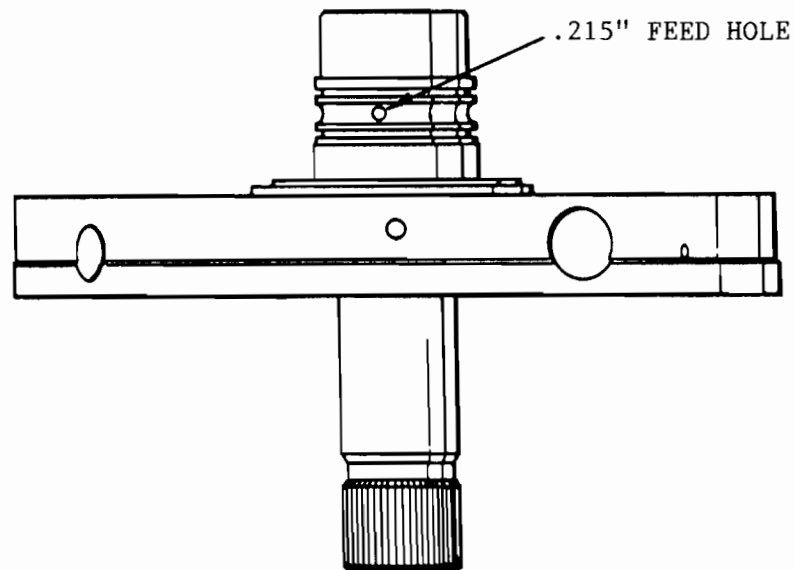

Figure 9
Basically the orifice for the reverse input clutch was moved from the stator shaft (.095" Feed Hole), to the new reverse input housing (See Figures 9 & 10). This now provides two different stators, both made for the forward clutch oil pipe, that WILL NOT interchange.
- (1) EARLY STATOR (.095" Feed Hole) - CANNOT be used with the new reverse input housing, which is the one with the aluminum piston. You will have installed "Two" orifices for the reverse input clutch, and the result will be delay to reverse (Refer to Figures 9 & 10).
- (2) LATE STATOR (.215" Feed Hole) - Can POSSIBLY be used on all previous models. This combination may create a harsh reverse as we now have no orifice for the reverse input clutch (Refer to Figures 9 & 10).